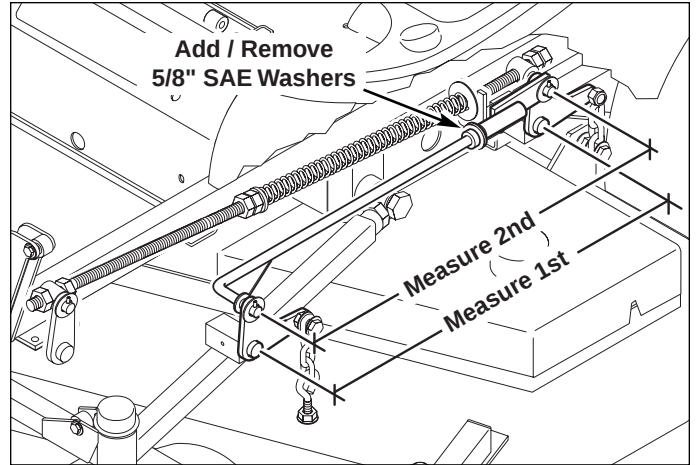

**Figure 44. 2 x 4 Locations**
3. Place 2 x 4 blocks under each corner of the mower deck with the 3-1/2" sides being vertical. Place a 1/4" (0,64cm) thick spacer on top of the rear 2 x 4 blocks. See Figure 44.